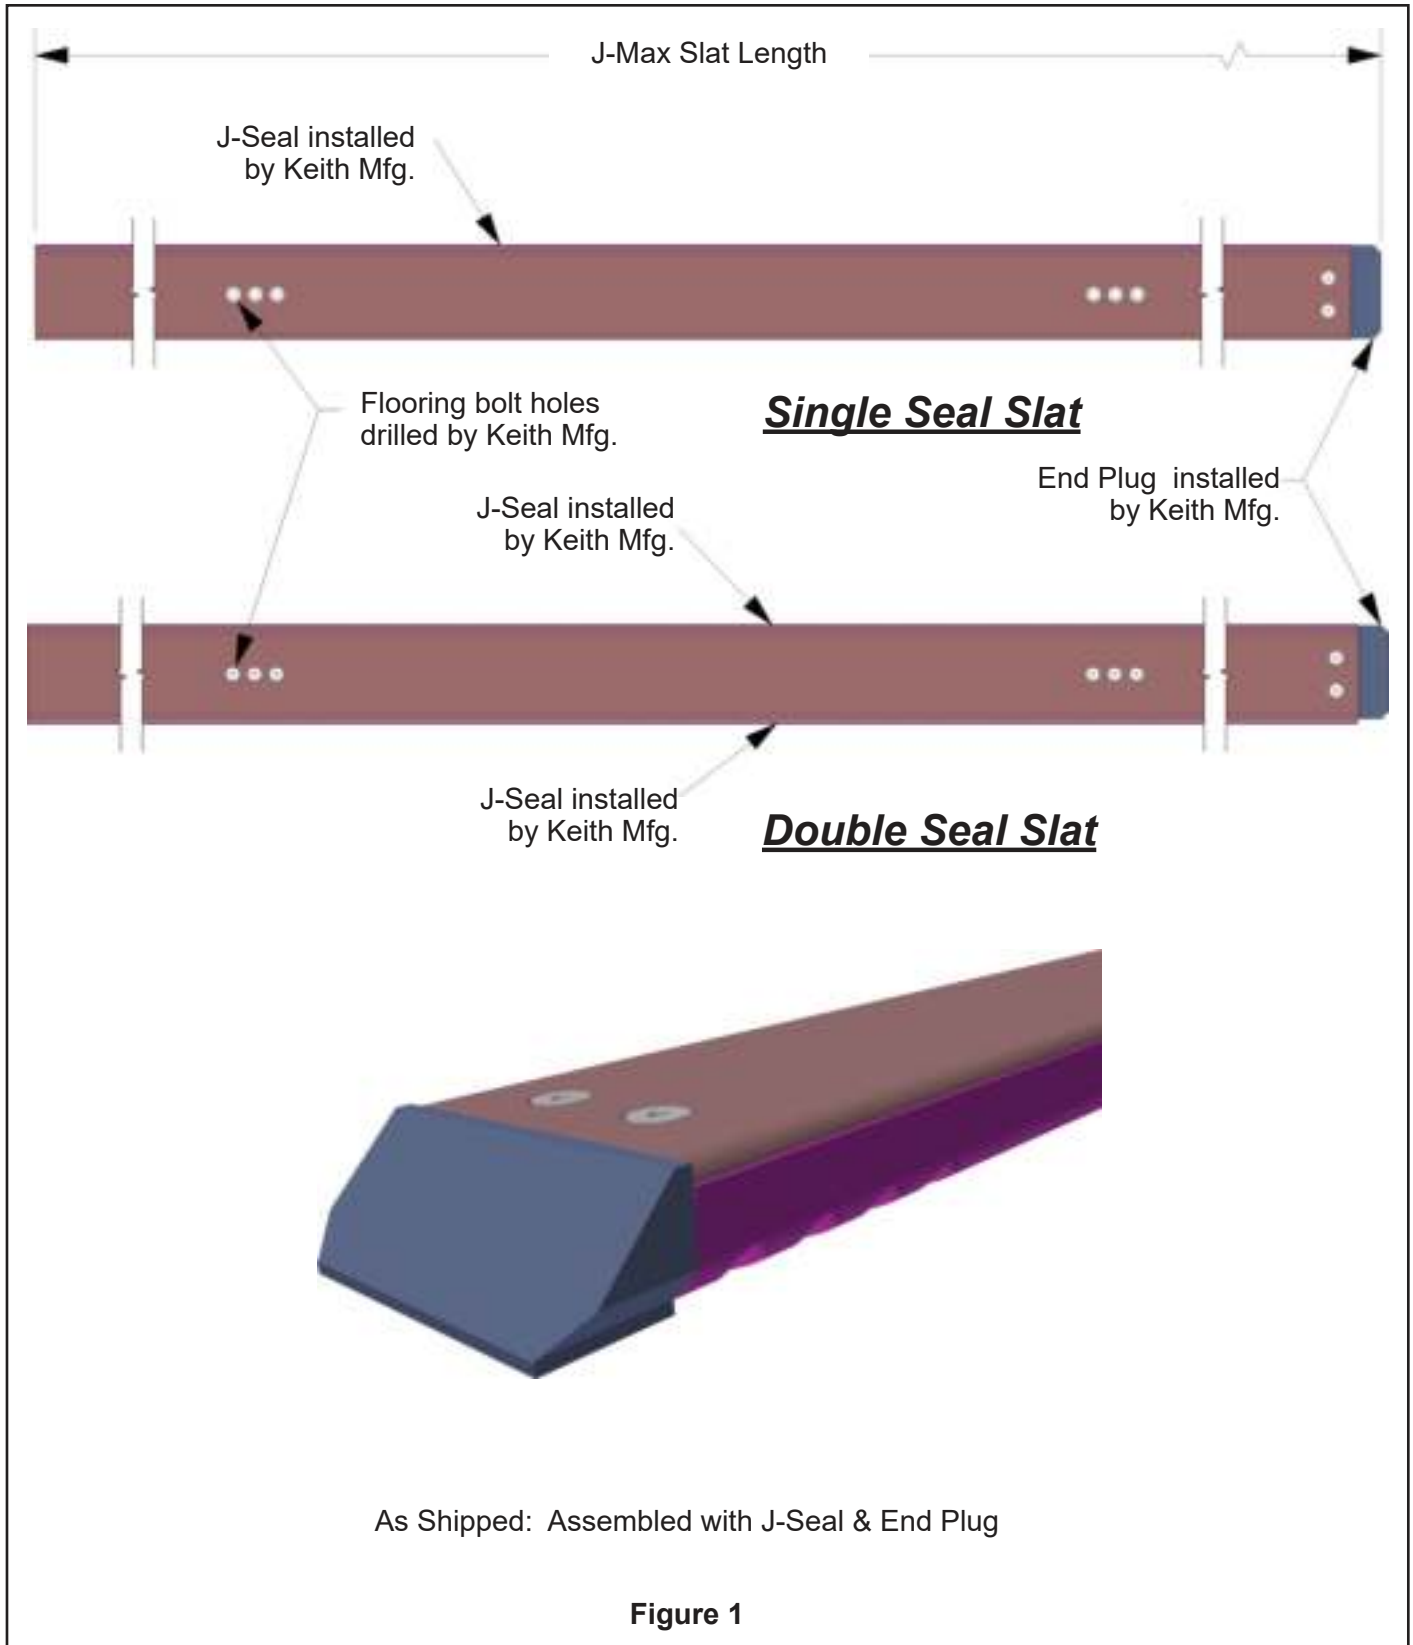

Figure 1
A. J-MAX slat assembly as supplied by KEITH Manufacturing Co. (See Figure 1)